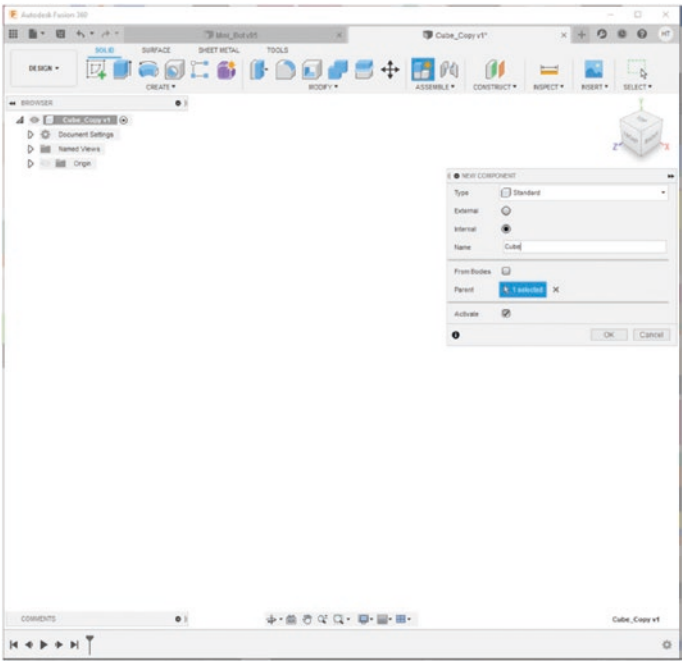

Figure 8-2. Create a new component named “Cube”
2. Create a new component and name it “Cube.” See Figure 8-2.